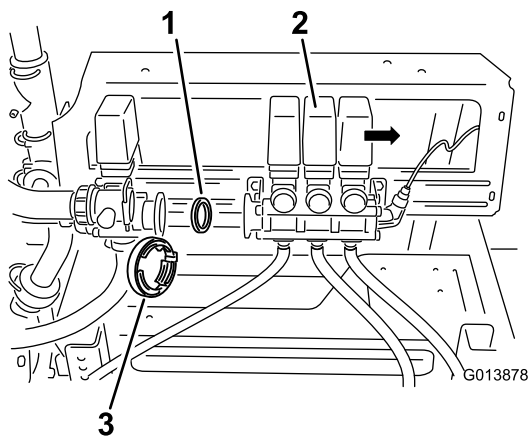

Figure 5
3. Carefully move the boom valve assembly away from the agitation valve (Figure 5).
4. Remove the existing gasket in the valve body (Figure 5).